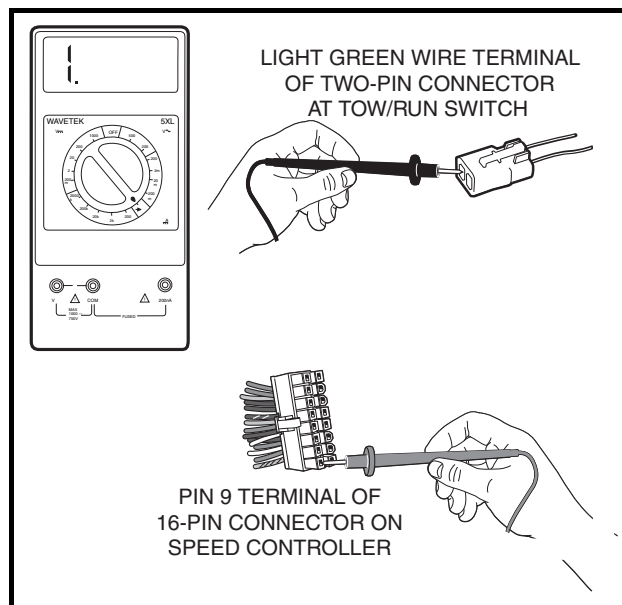

Figure 11-19 Diode Test
4. With the multimeter set to the diode test function ( $\rightarrow$ ), connect the black (–) probe of the multimeter to the light green wire terminal of the two-pin connector at the Tow/Run switch and the red (+) probe of the multimeter to the pin 9 terminal (**Figure 11-19, Page 11-32**). **See following CAUTION.** The reading should indicate an overload (no continuity). A diode is designed to conduct current in one direction only. If a diode conducts current (shows continuity) with the meter probes as described, the diode has failed and must be removed from the wire harness. **See Pin 9 Diode Removal, Section 13, Page 13-16.**